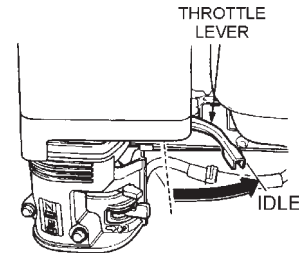

Figure 9. Throttle Lever (Idle)
- Move the throttle lever to the **IDLE** position (Figure 9) and run the engine for three minutes at low speed.